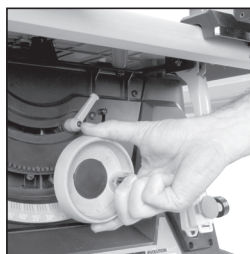

FIG. 12
- Turn clockwise to lower the blade. (**Fig. 12**)